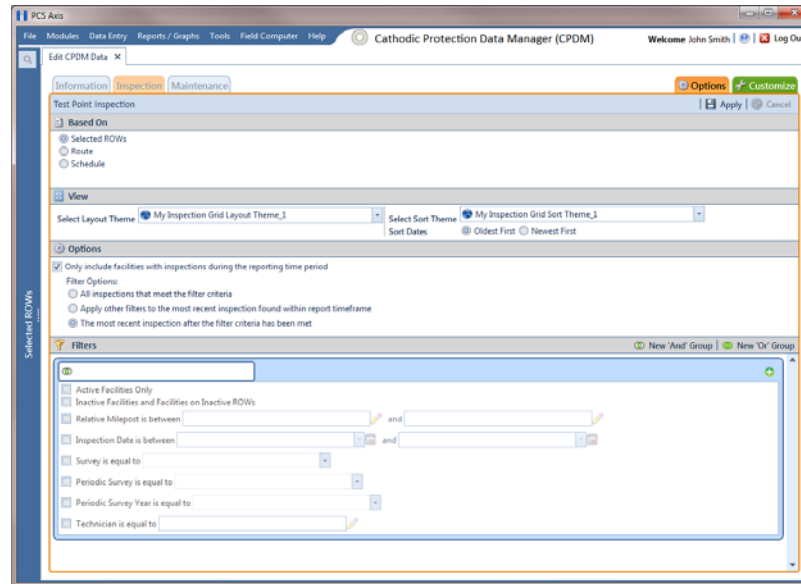

Figure 7-88. Options
- a** Click the **Options** tab  to open the options page (Figure 7-88, page 277).